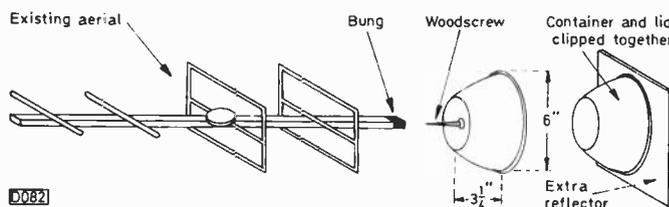

Fig. 2: Assembling the extra reflector on the boom.
A simple valve line output stage is shown in Fig. 2. No tuning capacitor is shown because in a valve line output stage the output transformer's self-capacitance is used to tune the flyback. Dynamic width control can be achieved by feedback to adjust the bias at the output pentode's control grid. This is done by feeding the flyback pulse to a v.d.r. which acts as a rectifier, producing a bias voltage to add to the self-bias produced by the pentode itself (grid current charges the coupling capacitor negatively when the valve saturates). Preset width control is achieved by feeding an offsetting positive voltage to the circuit - the control is often labelled "set boost". Since the amplitude of the flyback pulse depends on the conditions in the line output stage, dynamic width control is achieved, i.e. the operation of the stage is stabilised to counter supply voltage and load variations.
Fig. 2: Valve line output stage with pulse feedback to stabilise the operating conditions. The VDR acts as a pulse rectifier, producing a negative bias voltage proportional to pulse amplitude.
The line output stage is operated from a boosted h.t. rail of 95V. Compare the circuit with the valve circuit shown in Fig. 2: D114 is the boost diode, equivalent to V2, and C189 the boost reservoir capacitor, equivalent to Cb. Here the comparison ends! The unstabilised 70-95V h.t. supply is obtained from a transformer-fed mains rectifier circuit. Stabilisation is achieved by a chopper
*RGB inputs from computers often need attenuation since they are usually TTL (0-5V). For BBC etc. use circuit shown in Fig. 2 in each leg, fitted as close to the computer as possible.
Fig. 2: Simple potential divider to reduce the amplitude of a TTL video signal from a computer to a level suitable for feeding to a TV set via the SCART connector.